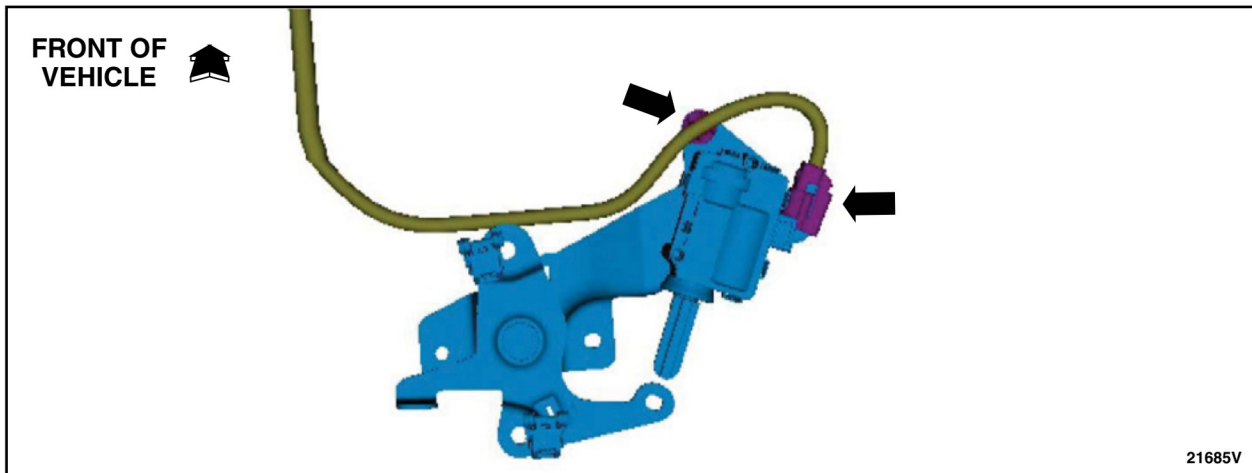

FIGURE 22
26. Disconnect the electrical connector and the push pin retainer. See Figure 22.